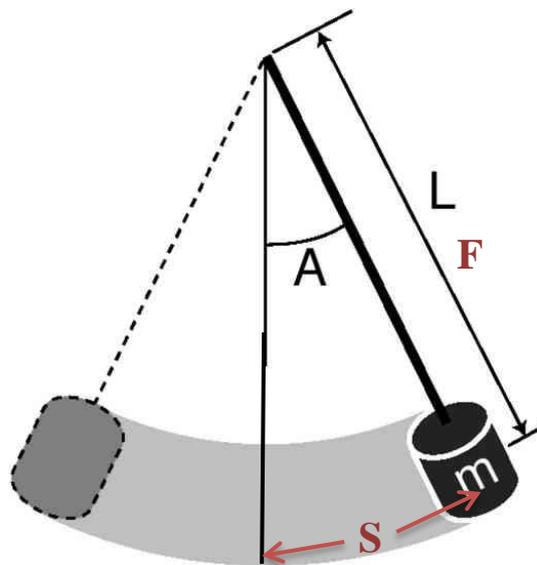

Fig. 8.2 Simple Pendulum
The simple pendulum is shown in Figure 8.2. Let us suppose that at some point in the swing of a pendulum the string makes an angle (A) with the vertical. In that case, the forces on the point mass m are FT , the tension in the string, acting along the string, and mg , the weight of the pendulum acting straight down. Thus the resultant force acts along the trajectory of the mass and has a magnitude of $mg \cdot \sin(A)$. The trajectory of the mass is always perpendicular to the tension FT . As well, the distance S along the trajectory from the equilibrium position to the mass is equal to LA where L is the length of the string and A is measured in radians. There are many times in the study of physics when you will find out that approximations are made. This is done not because the physicist is lazy, but rather because such approximations make the final result simple and concise. Such approximations, however, place limitations on the system and can only be used if such limitations are acceptable.